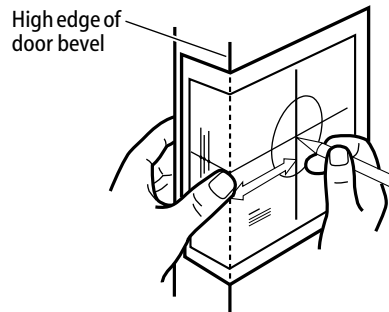

Figure 2 Marking the drill points
- 1 Fold the template and place it in position on the high edge of the door bevel. (See Figure 2.)